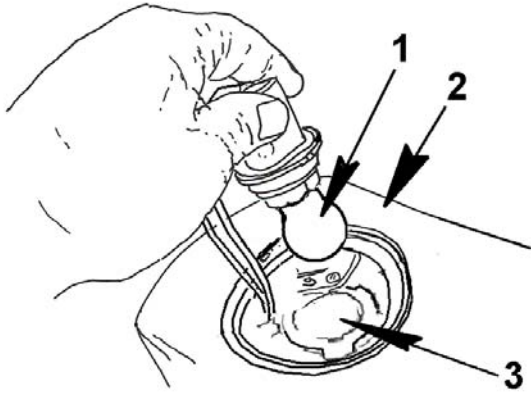
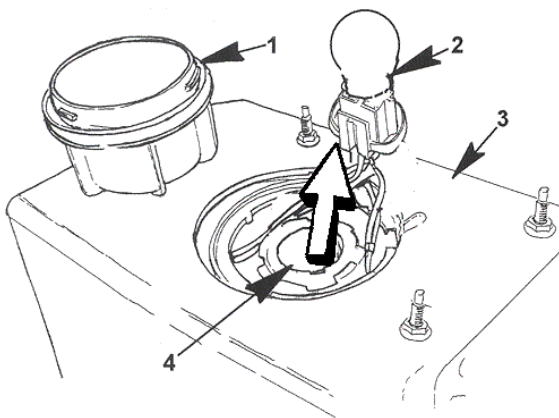

Figure 50 Directional Bulb Remove / Install
Figure 51 Directional Bulb Removal
5. To remove (Figure 50, Item 1) or install directional bulb, push downward on bulb, twist and lift out (Figure 51, Item 2).